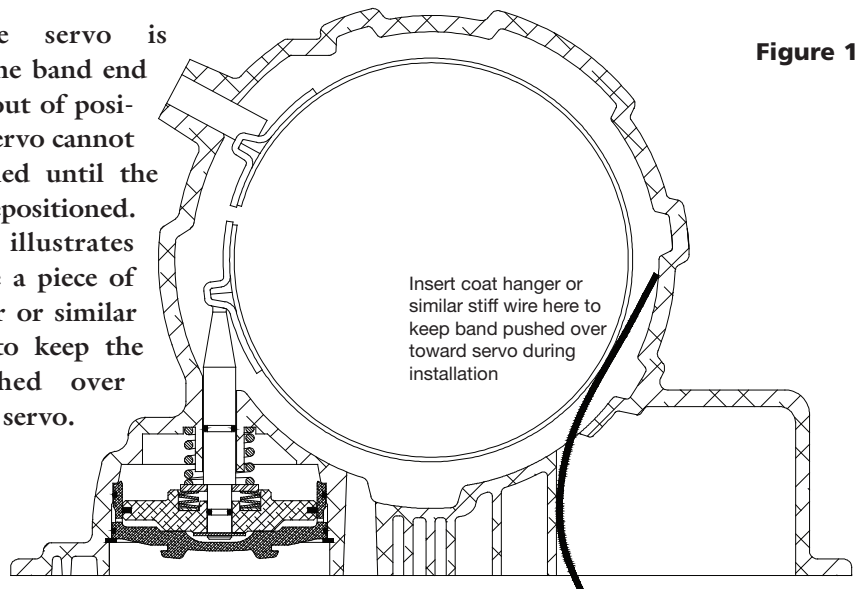

Figure 1
- When the servo is removed, the band end will move out of position. The servo cannot be reinstalled until the band is repositioned. Figure 1 illustrates how to use a piece of coat hanger or similar stiff wire to keep the band pushed over toward the servo.
NOTE: Ensure the pin properly engages the band by positioning the band as shown in Figure 1.
- NOTE:** Ensure the pin properly engages the band by positioning the band as shown in Figure 1.